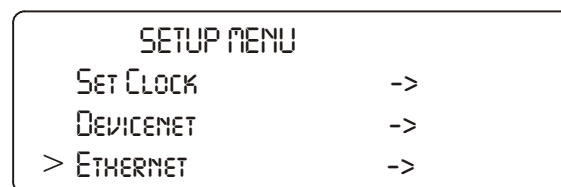

FIG. 300: SETUP MENU/SELECTING ETHERNET
- Press the Enter button. The Setup Menu appears. Press the up arrow button until the cursor is in front of Ethernet. (See Fig. 300)